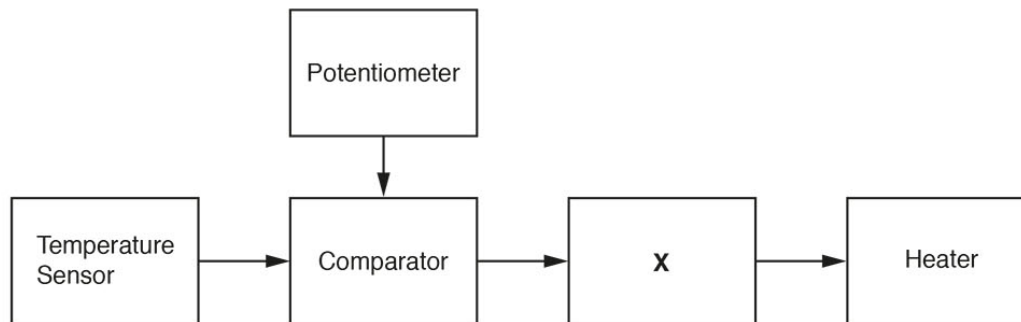

Fig. 2
- 3 Fig. 2 shows a block diagram of a control system for varying the set level of temperature.